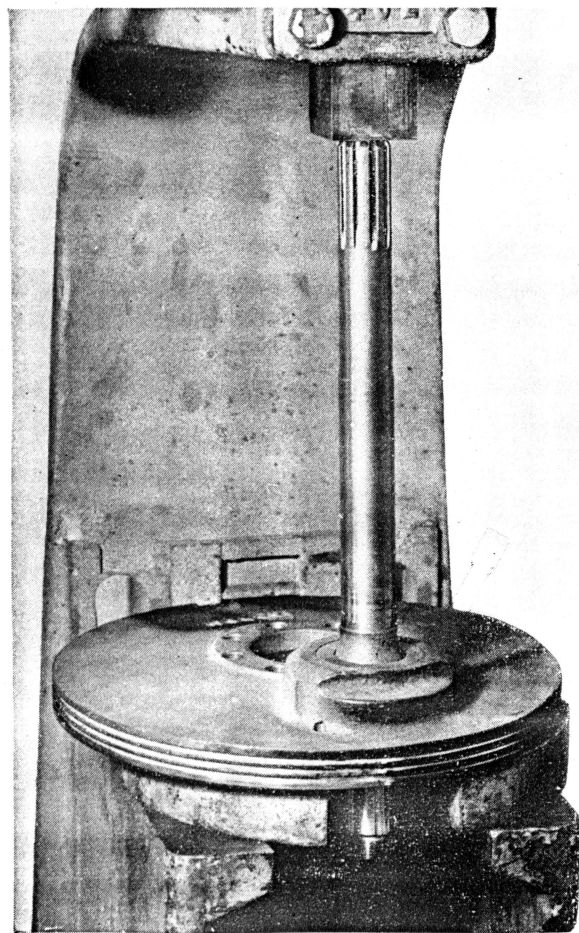

Fig. 17
4. Pressing on differential end of shaft, remove shaft and bearing from disc. (Refer to Fig. 17.)